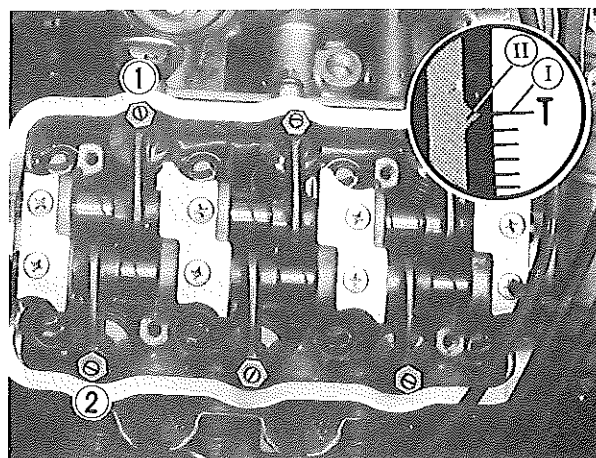

Fig. 4-151
Remove the ignition timing check hole plug provided at the joint between engine and transmission to gain visual access to the "T" mark. Turn over crankshaft to index mark ① to timing match mark ②, and see if the rocker arms of No. 1 cylinder are off the respective cam lobes (of camshaft); if so, valves ① and ②, Fig. 4-151, are ready for clearance checking and adjustment: if not, turn over crankshaft further by 360° to index mark ① to mark ② again. This 360° turning should bring about the desired state. (in which the two valves are ready for checking and adjustment).